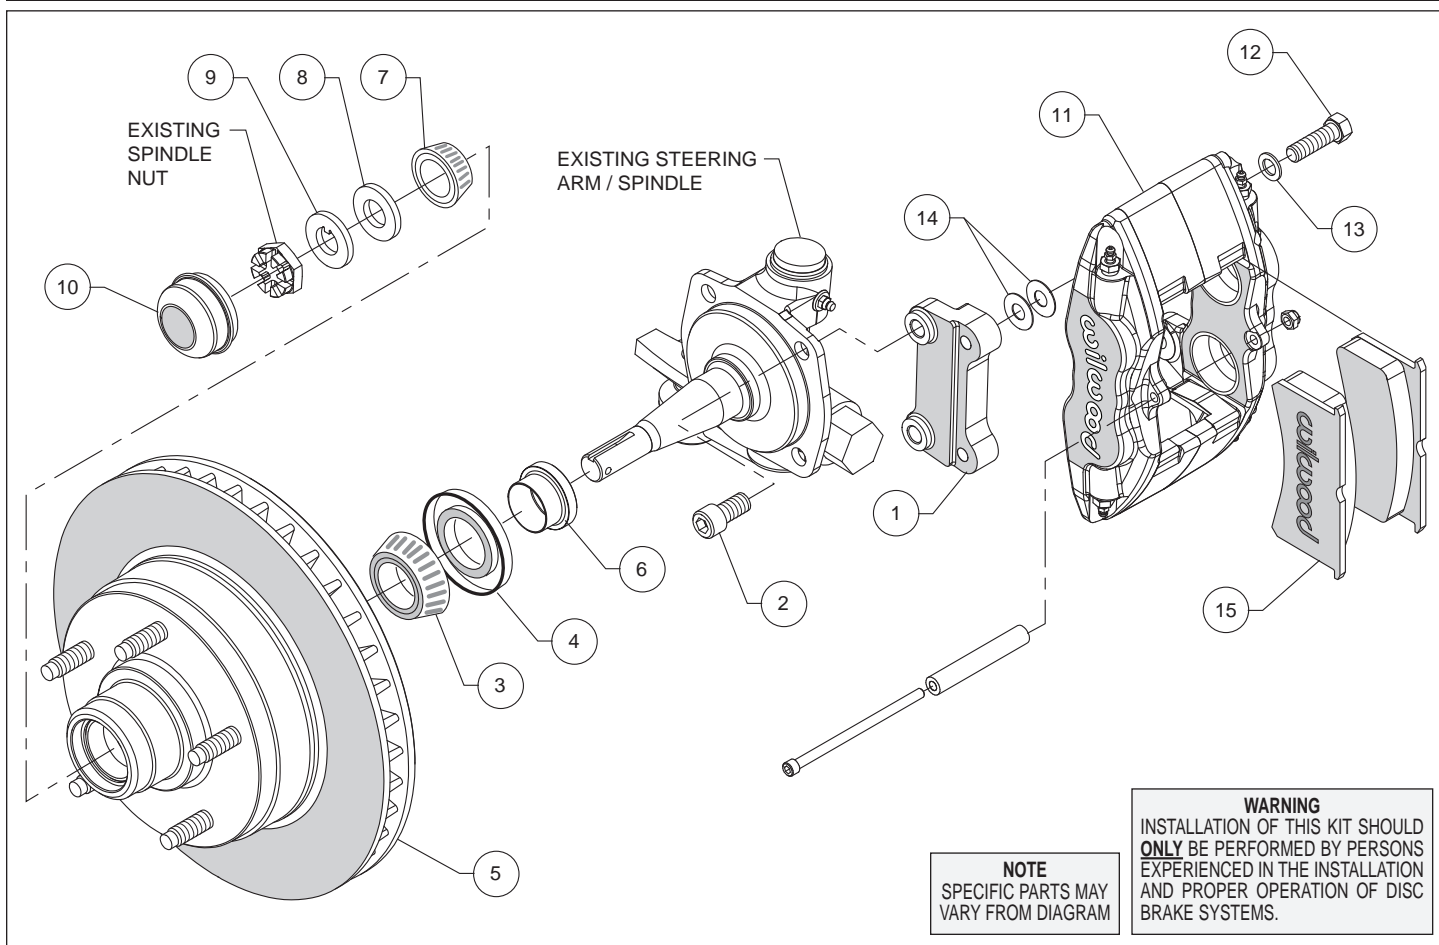

Figure 1. Typical Installation Configuration
Assembly Instructions (numbers in parenthesis refer to the parts list, and Figure 1 on the preceding pages):
- Orient the caliper mount bracket (1) as shown in Figure 1 and Photo 1, and install using bolts (2). Temporarily tighten the mounting bolts. **NOTE:** *The bracket must fit squarely against the mount bosses on the upright.* Inspect for interference from casting irregularities, machining ridges, burrs, etc. Remove bolts one at a time, apply red *Loctite*® 271 to the threads and torque to 90 ft-lb.
- Slide the bearing spacer (6) onto the spindle. Ensure the larger O.D. goes against the spindle face, Figure 1 and Photo 3.
- Mount the caliper (11) onto the caliper mounting bracket (1) using bolts (12) and washers (13), as shown in Figure 1. Initially place two .030" thick shims (14) on each bolt between the caliper and the bracket, Photo 5. Temporarily tighten the mounting bolts and view the rotor (5) through the top opening of the caliper. The rotor should be centered in the caliper, Photo 6. If not, adjust by adding or subtracting shims between the bracket and the caliper. Always use the same amount of shims on each of the two mounting bolts. Once the caliper alignment is correct, remove the bolts one at a time, apply red *Loctite*® 271 to bolt threads, and torque to 60 ft-lb.